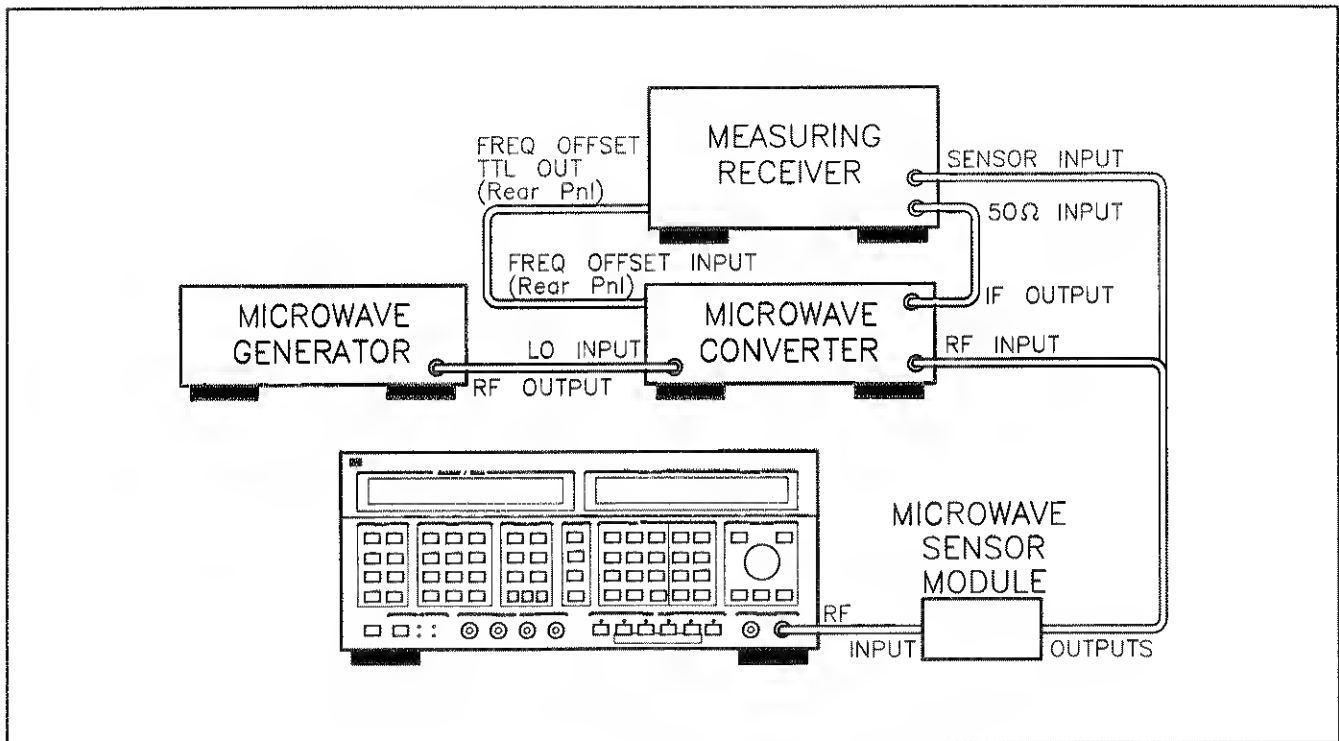

Figure 3-2. Carrier Amplitude (Down-Converted) Test Setup
9. Connect the equipment to the microwave converter as shown in figure 3-2. (Connect the microwave input of the sensor module directly to the Signal Generator's RF output connector.)